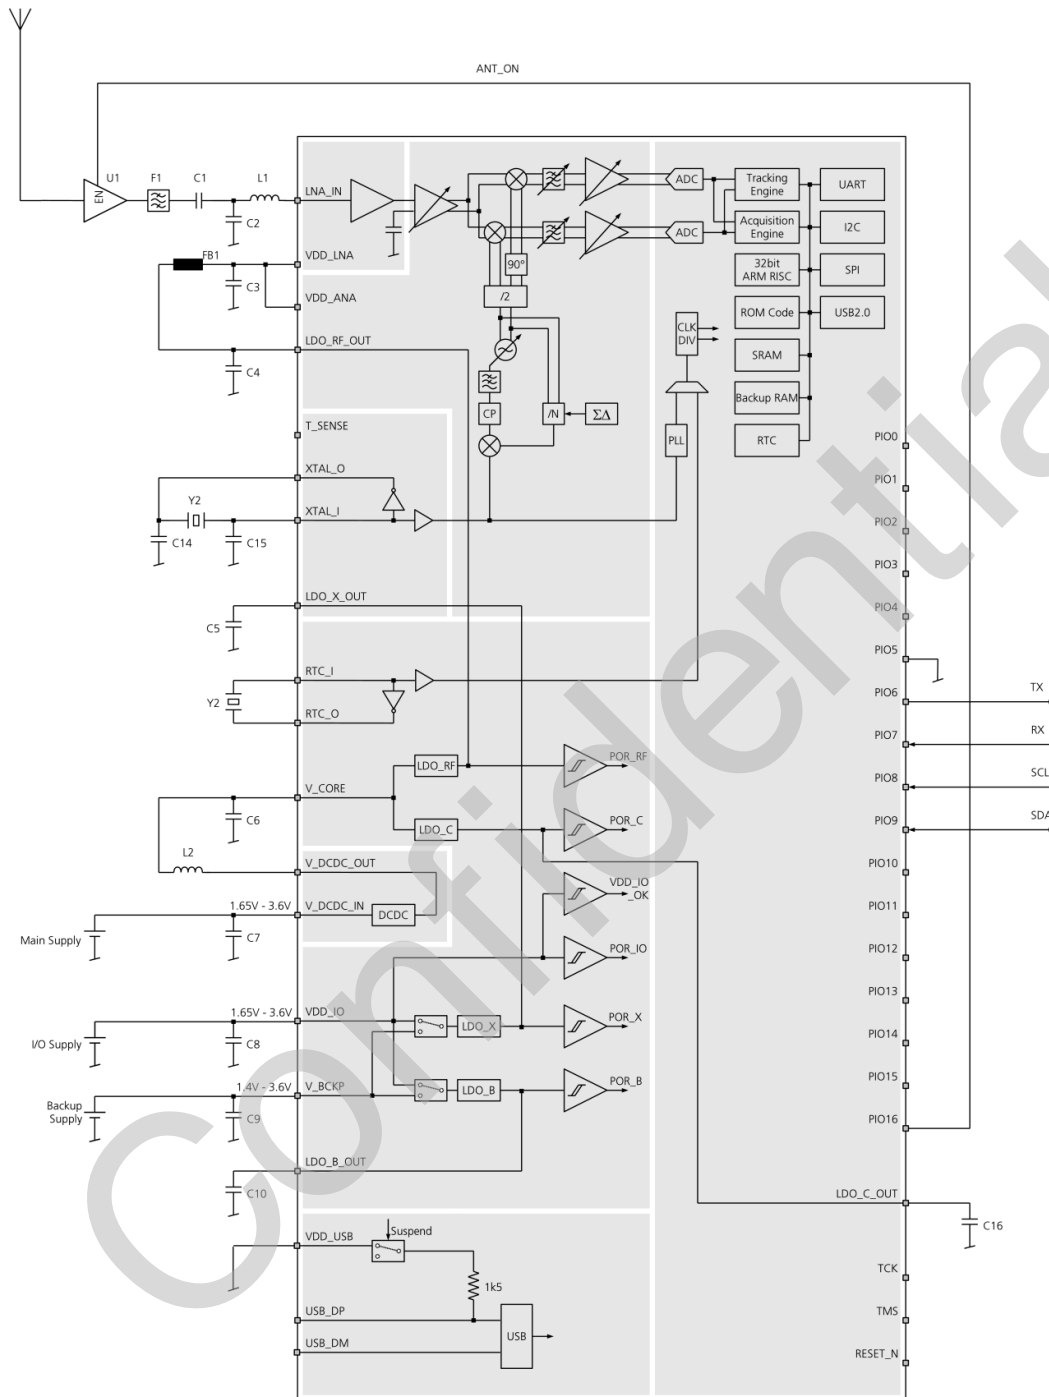

Figure 2: u-blox 7 RF and baseband subsystem
The low noise amplifier (LNA) makes use of a single stage cascode configuration and requires external matching for adequate function. For improved performance an external LNA should be added as shown in Figure 2. Depending on the application it might be useful to consider additional filtering.
3. RF - the RF domain supplies the RF subsystem. The LDO of the RF domain is called LDO_RF. Its input is internally connected to the input of LDO_C of the core domain (see Figure 2).
u-blox 7 integrates a DC/DC converter, allowing reduced power consumption especially when using a main supply voltage above 2.5 V. To use the DC/DC converter the main power supply must be connected to V_DCDC_IN and a capacitor and an inductor must be added to connect V_DCDC_OUT to V_CORE as shown in Figure 2. If a converter is not used, connect V_DCDC_IN/V_DCDC_OUT to V_CORE.